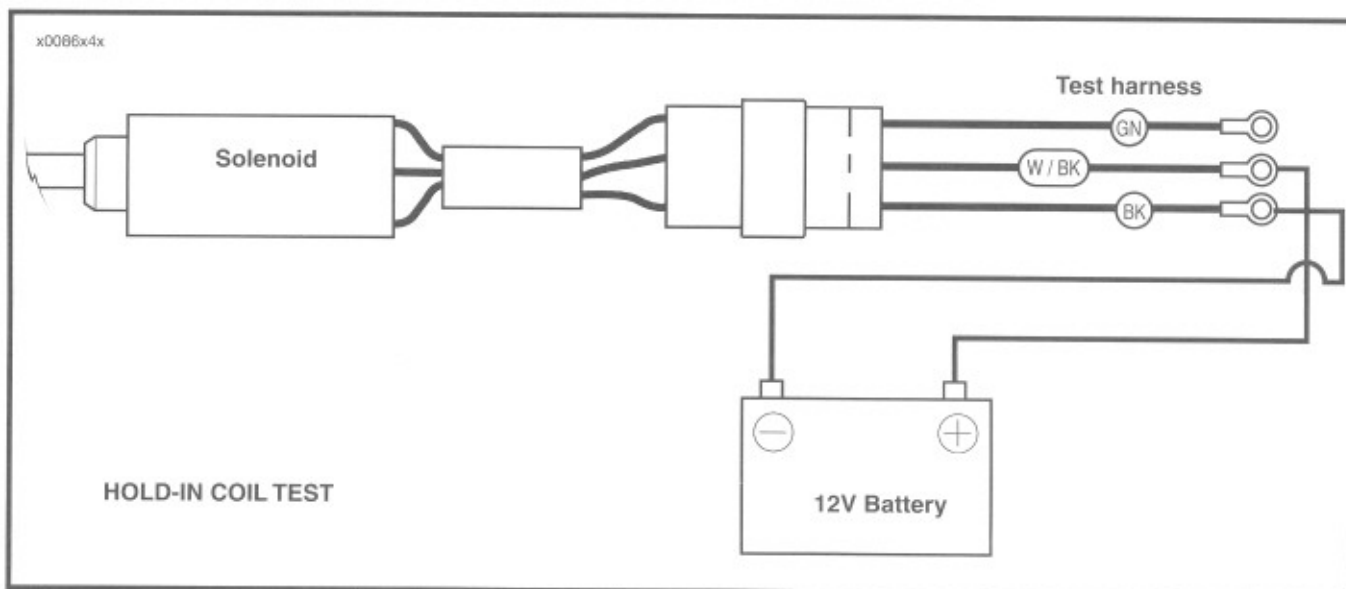

Figure 4-19. Hold-in Coil Test
1. See Figure 4-19. Connect a 12-volt battery to the solenoid test harness as shown.